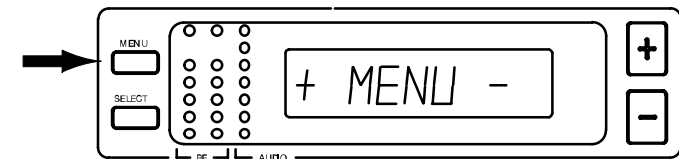

FIGURE 29
- Press the MENU button. The + MENU – display will appear, as shown in Figure 29.